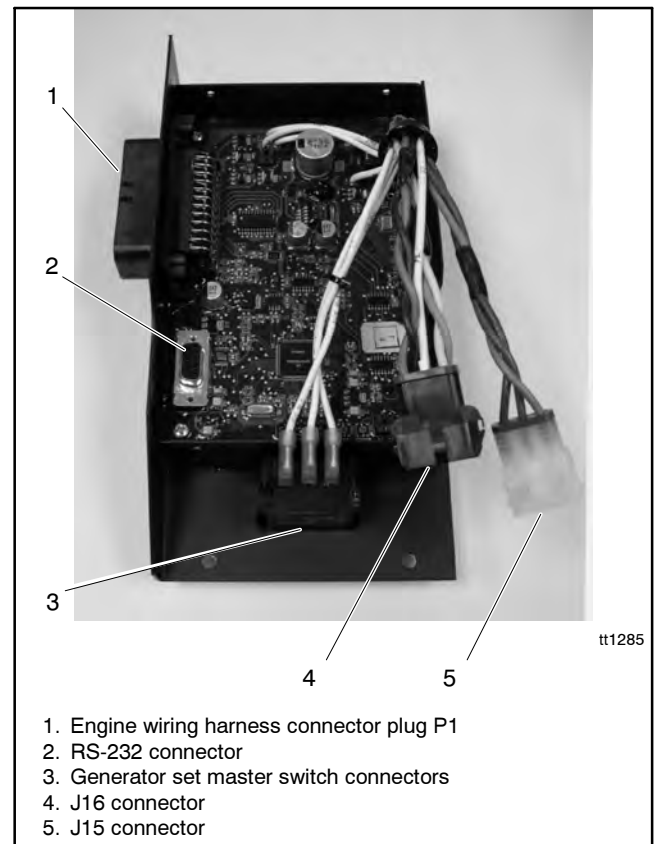

Figure 7 Advanced Digital Control Connections
4. Disconnect the engine wiring harness connector P1 plug (35-pin) from the controller. Disconnect the J15 and J16 connectors. See Figure 7.
6. Note the labels on the three leads connected to the generator set master switch for reconnection later. Disconnect the leads at the pink connectors. See Figure 7, item 3.
8. Connect a null modem cable from the serial port of the computer to the RS-232 connector on the back of the ADC controller. See Figure 7, item 2.